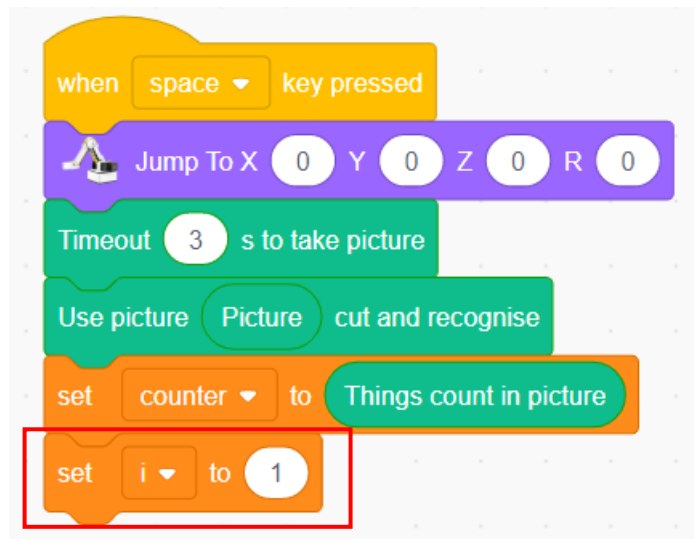

Figure 4.25 Defining the variable i
Step 4: Define the variable i to store the sequence number of the items with image segmentation, and set the initial value to 1, as shown in Figure 4.25.